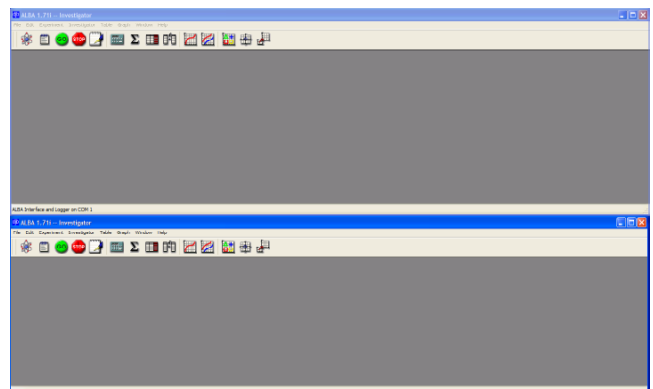

Figure 97
Step 5: Hold down the Ctrl key and launch a second instance of the ALBA Software. The first time you launch a second instance the software will ask you to select what ComPort you are using – select Autofind. Now Select the icon *Start with none of the above* then resize the window to fill the lower part of the screen - Figure 97.